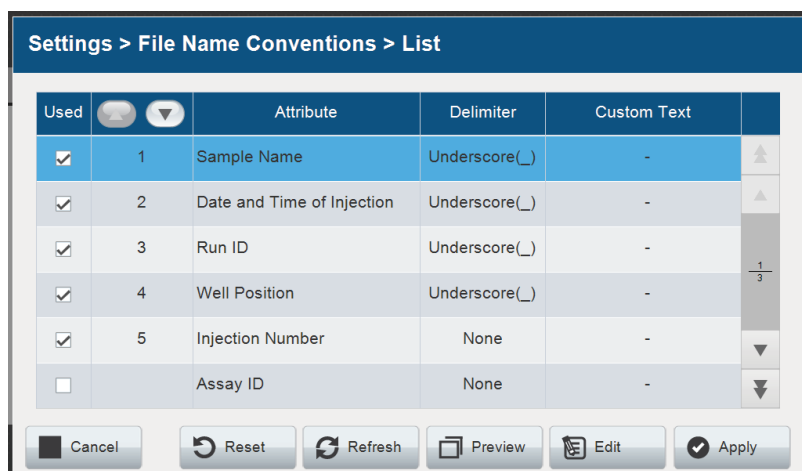

Figure 170. 'File Name Conventions List' screen.
4. Select the row you intend to edit from the 'File Name Conventions List' screen (Figure 170). Select **Edit**.